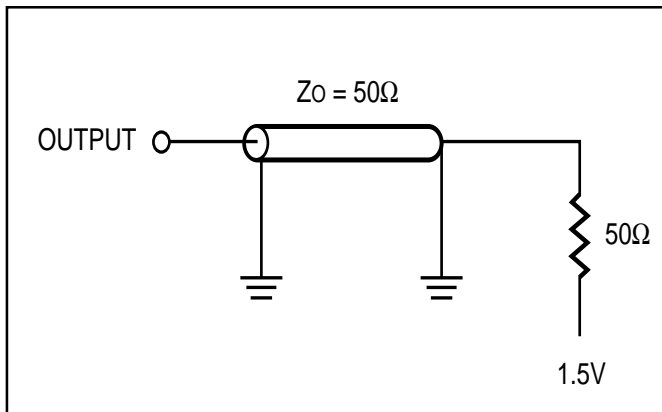

Figure 1
Output Load	See Figures 1 and 2
2. Tested with load in Figure 1,2,3,4.